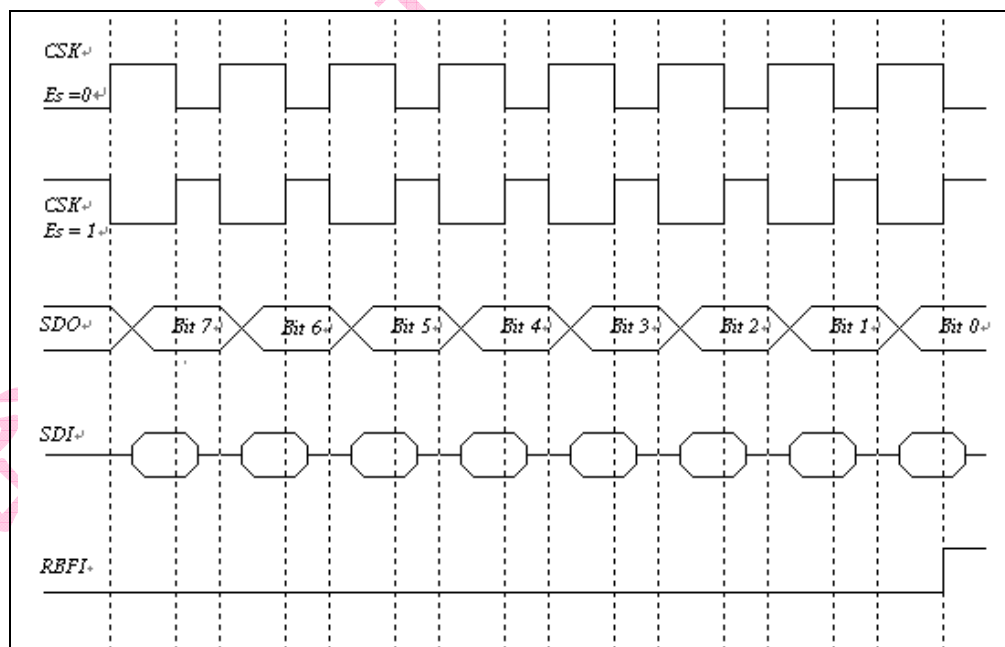
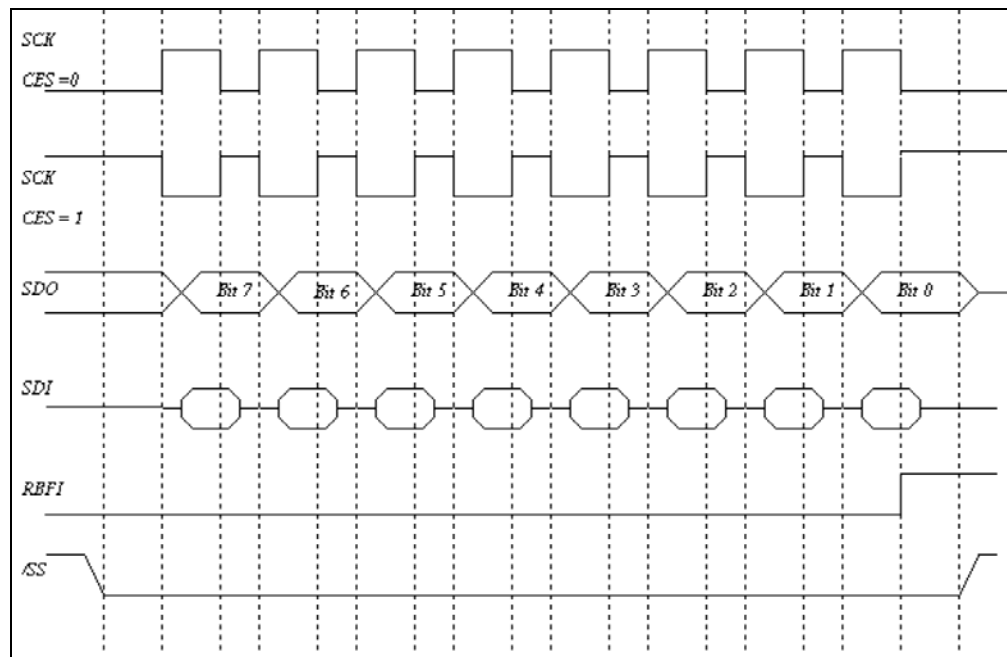

Figure 6-16 SPI Mode with /SS Disabled
Figure 6-17 SPI Mode with /SS Enabled
Below are the functions of each block and explanations on how to carry out the SPI communication with the signals depicted in Figures 6-16 and 6-17.
- Timing is shown in Figures 6-16 and 6-17
The SCK edge is selected by programming bit CES. The waveform shown in Figure 6-16 is applicable regardless whether the EM78P507N is in master or slave mode with /SS disabled. However, the waveform in Figure 6-17 can only be implemented in slave mode with /SS enabled.